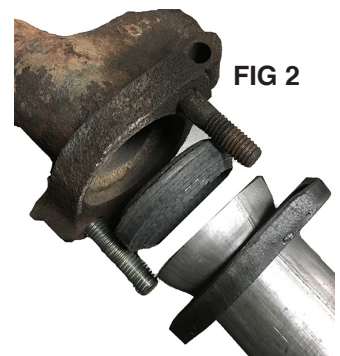

FIG 2
2. If you are not using stock Bronco manifolds skip to step 3. Be sure the old donut gasket is completely removed and the manifold studs are not damaged. (Sometimes the studs are not long enough and will have to be removed and replaced with longer studs or swap to a set of bolts.) For studs we used 7/16" x 14 all thread and cut it to length. It is best to replace the nuts at the same time. Install Head Pipes (A & B). Be sure to install both pipes with new donut gaskets (L) seen in FIG 2. Be sure to snug the nuts down firm so the pipes are in the position they will be in once it's time to tighten them down.